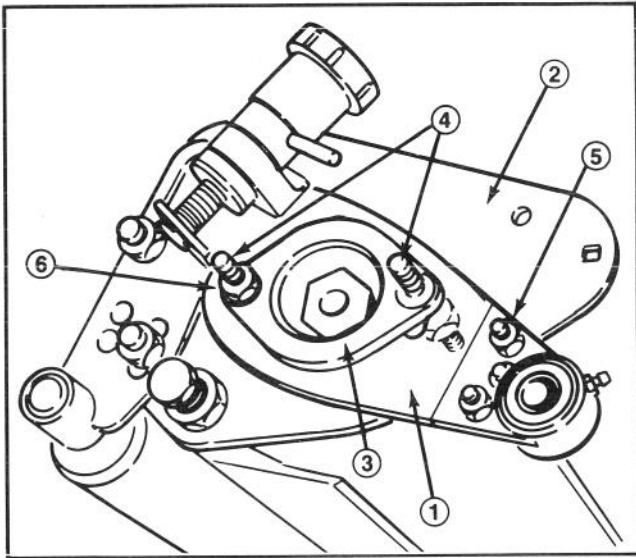

Figure 11
9. Install the right hand groomer plate assembly onto the right reel frame plate using the following procedure (Fig. 11):
- A. Remove paint and flash from the inside of the reel frame tube. Wrap shim stock (.004 - .005 thick x 1.75 wide) around mounting block to compensate for looseness. Slide right mounting block into tube opening on right reel frame. Simultaneously slide the right groomer plate bearing over the end of the groomer shaft (Fig. 11). Mounting block should be snug without free play in the reel frame tube.
- B. Continue sliding the right groomer plate bearing adapter into the right reel bearing housing (Fig. 11).
- C. Secure adapter with special studs (2) supplied with the Grooming Reel Kit (Fig. 11). The use of a stud driver or double nuts to fasten the special studs is recommended. Be sure to position a spacer over the end of each stud between the Grooming Reel adapter and the right reel bearing housing. Torque studs to 17 to 21 ft. lbs.
- D. Install lock nuts on the insides of the studs from step 9C (Fig. 11). Lock nuts should be put on the inside of the reel frame plate and torqued to 23 to 27 ft. lbs.
- E. Install flange lock nuts on the outsides of the studs from step 9C (Fig. 11) These lock nuts will eventually be used to mount the reel drive motor.